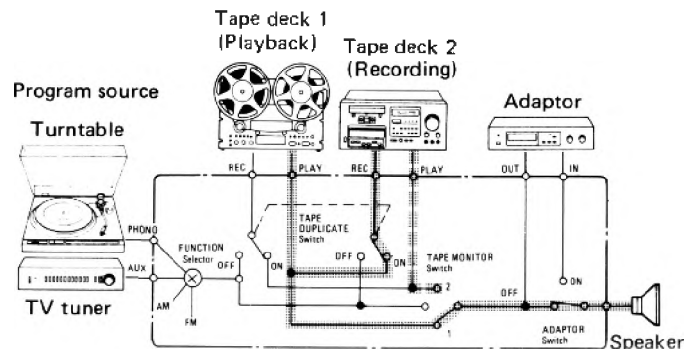

Fig. 17
1. As shown in Fig. 17, connect the tape decks to the receiver's TAPE 1 and TAPE 2 jacks.